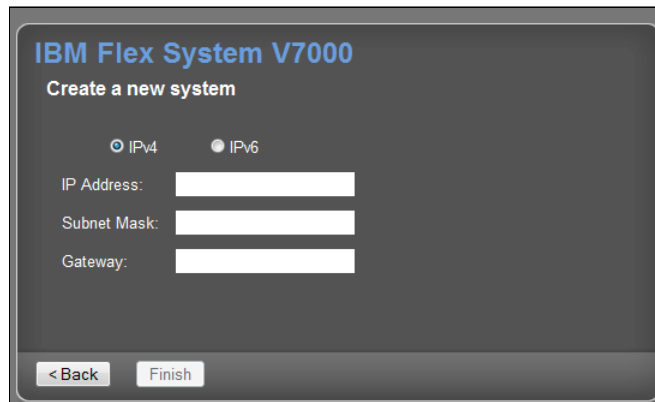

Figure 4-11 Create new Storage Cluster
4. Select whether you are using an IPv4 or IPv6 management IP address and type in the address (you can use DHCP or statically assigned one). The subnet mask and gateway will already have defaults listed, which you can edit, as shown in Figure 4-11.
5. Click **Finish** in Figure 4-11 to set the management IP address for the system. System initialization begins and might take several minutes to complete.
After clicking **Finish** in Figure 4-11 on page 169, on the next panel, enter the system name and a new superuser password. At this point, you have the option to use the setup wizard to configure more settings such as notifications and storage configuration. If you are not ready to complete further configuration steps, use the configuration tasks in the management GUI to complete the configuration at a later time.